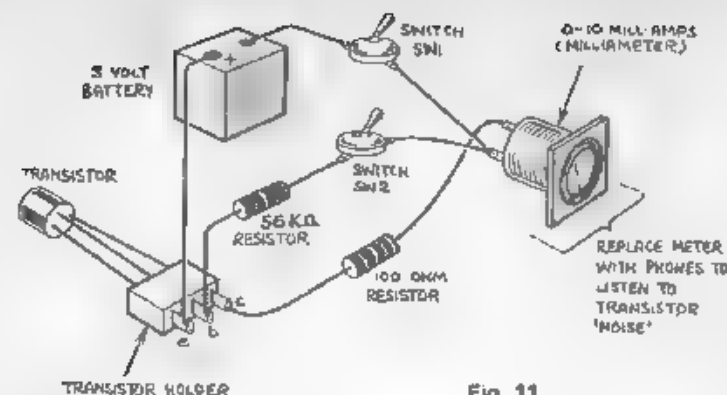

Fig. 11
*Fig 11* shows a simple circuit for testing PNP transistors. It could be used for NPN types simply by reversing the battery connections. Using a transistor holder, various transistors can be plugged in and easily removed. Start with both switches off. Now switch on SW1: a very small reading should be obtained on the meter. Now switch on SW2: a much larger reading should be obtained. This larger reading gives an idea of the 'gain' of the transistor: the higher the reading the higher the 'gain'. A very low reading, less than 1 mA say, or no reading at all, would indicate a 'dud' transistor.